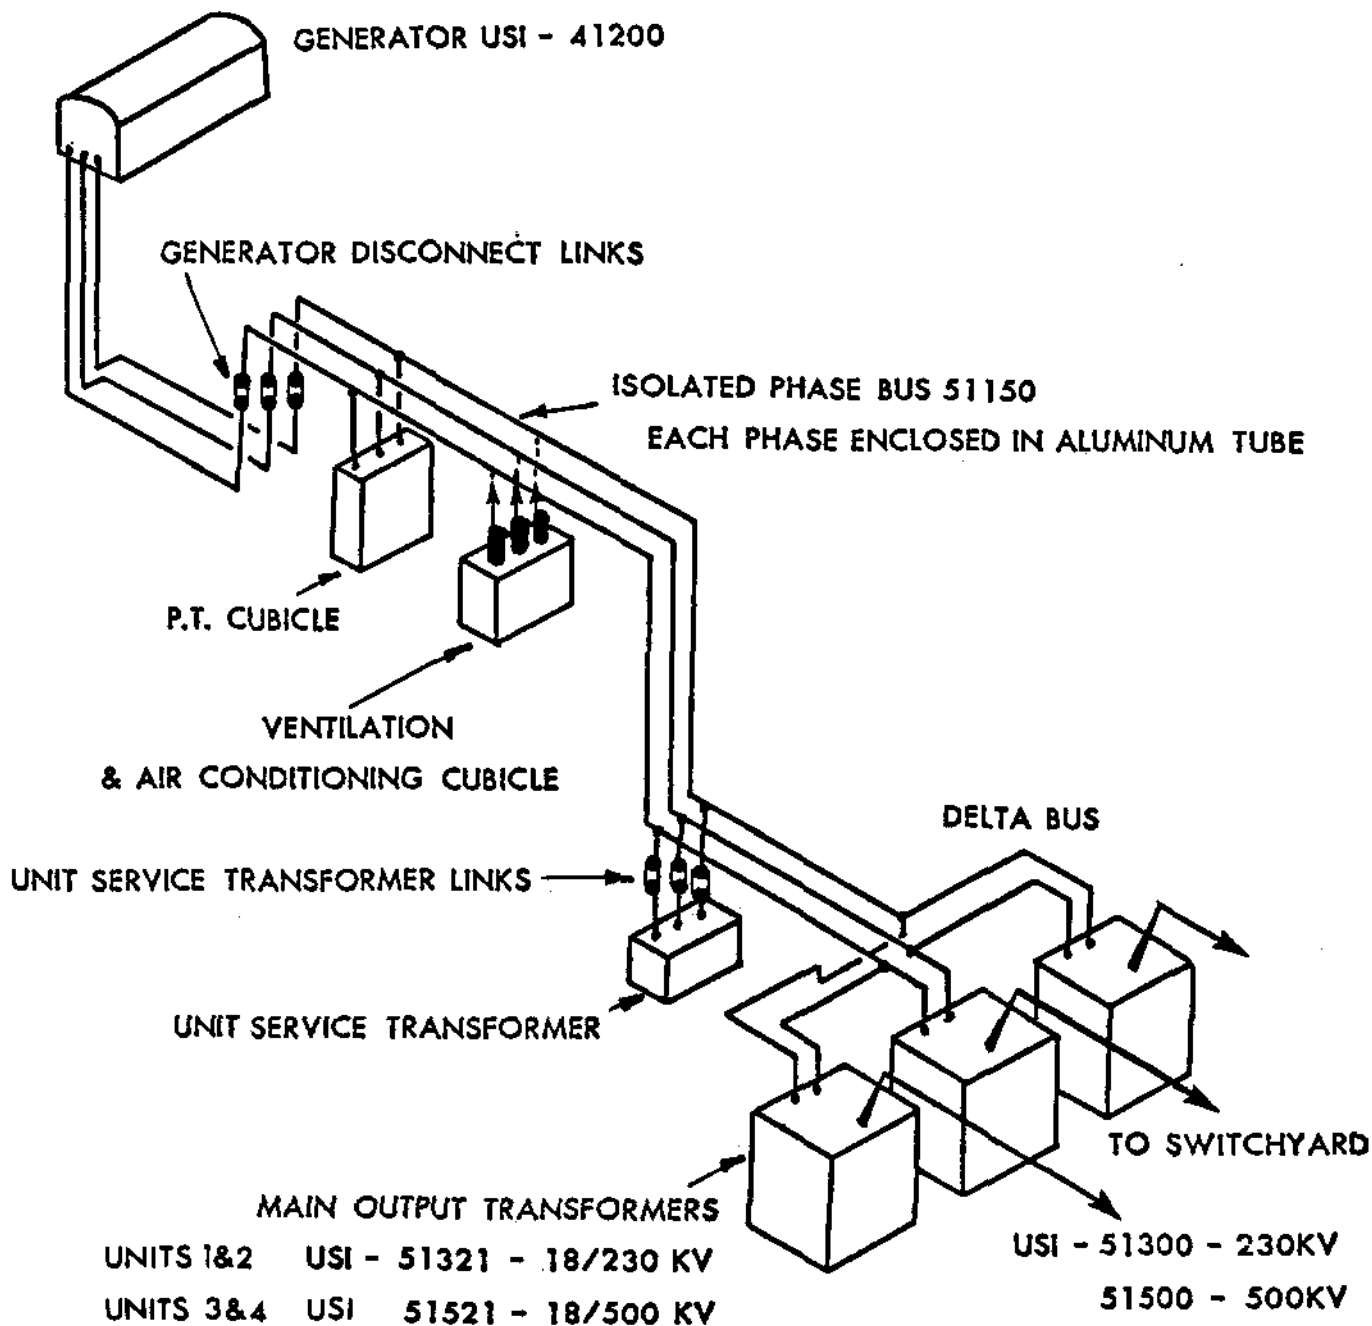

Figure 1: Diagram Showing the Main Output Isolated Phase Bus, (IPB), at Bruce "A" NGS.
- 3.1.1 Construction. Figure 1 shows the Isolated Phase Bus (IPB) at Bruce 'A' NGS. The IPB conveys power from the generator to the main transformer. Because the IPB has to convey very large currents, (up to 16 500 A at Pickering and 30 000 A at Bruce 'A'), it has to have a large cross sectional area. Bearing in mind, that as a rule of thumb, 6.45 cm² (1 square inch) of copper is required to convey 1000 A, the Pickering generator will require a copper conductor section of 106 cm² (16.5 square inches) and the Bruce 'A' generator would require 193 cm² (30 square inches) cross section. Clearly, copper conductors of this size would be very expensive so aluminum is used. To allow for the lower conductivity of aluminum, the cross section has to be increased by a factor of 1.64.